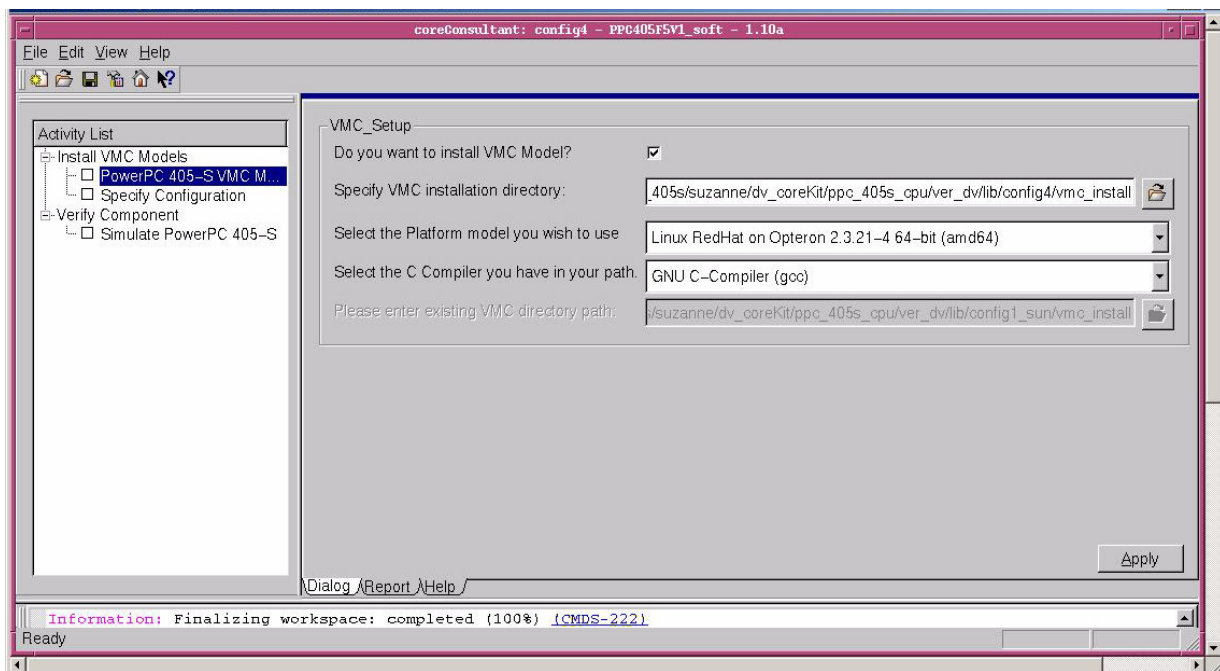

Figure 4: Design View coreKit VMC_Setup Activity
At the completion of workspace creation, coreConsultant displays the Activity List. For the Design View coreKit (Figure 4), the first activity to execute is PowerPC 405-S VMC Model Installation. Go to “Installing the VMC Model” on page 17 to continue.
To install the VMC models, go to the PowerPC 405 VMC Model page of the coreConsultant Activity List (Figure 4), then select the following installation options (see Table 2 for details):
- Go to the PowerPC 405 VMC Model page in the coreConsultant Activity List (Figure 4), then select the following installation options: